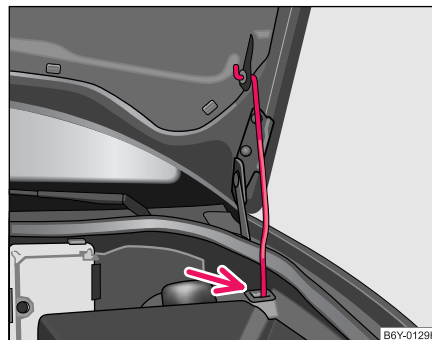

Fig. 125 Securing the bonnet with the bonnet support
- Take the bonnet support out of its holder and set it in the opening designed for it ⇒ page 171, fig. 125.